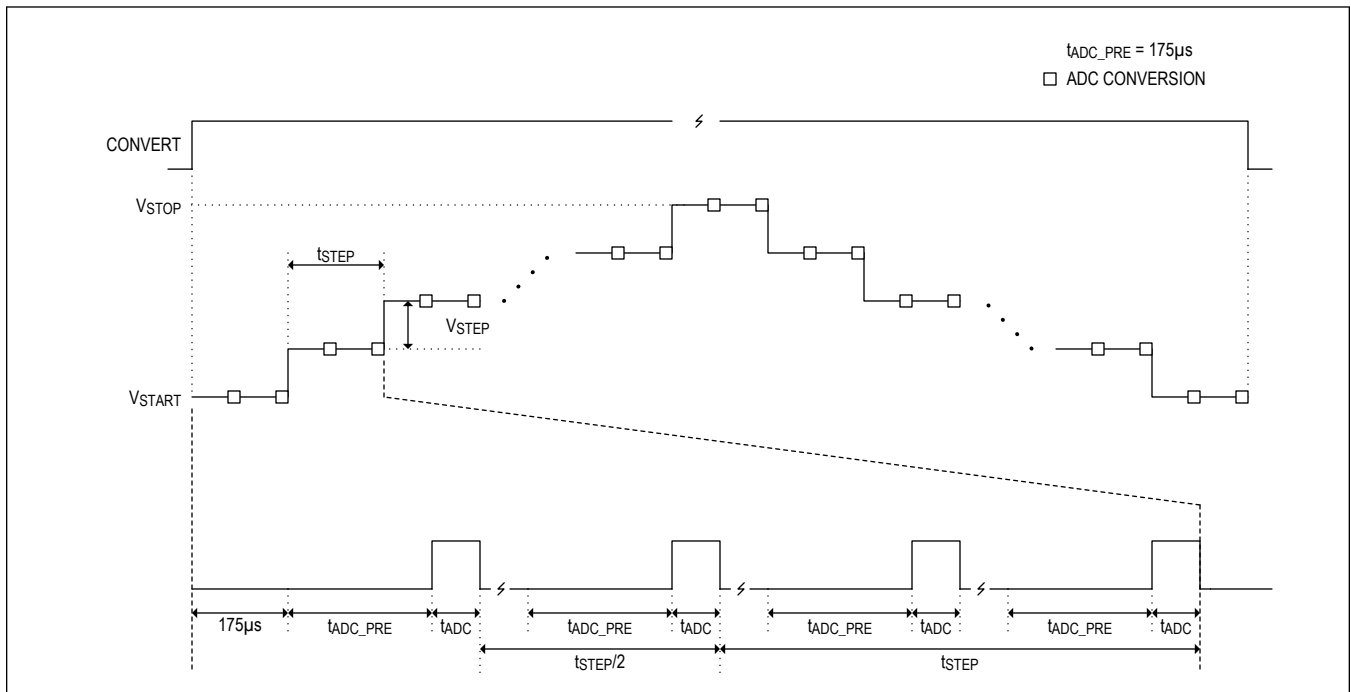

Figure 21. CV Timing Waveform
Cyclic voltammetry (CV) is enabled by setting SENS_CONV_TYP (0x80) to 1 and $\text{AC_MODE}[1:0]$ (0xA0) to 1. In this mode, the waveform shown in Figure 21 is generated on the selected WE pin when CONVERT (0x83) is set to 1.